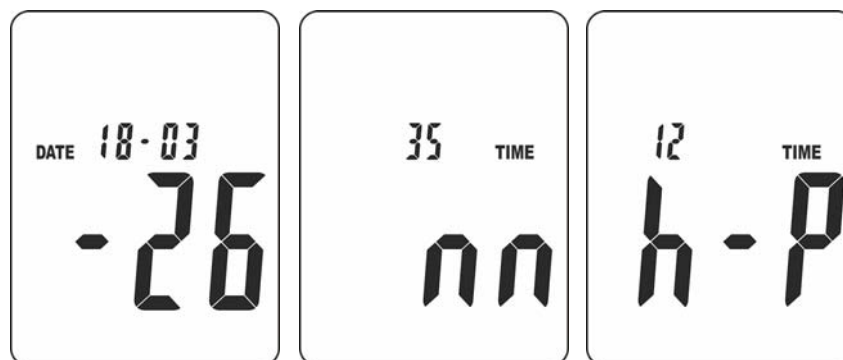

Fig. 3: System time setting
2. Press and hold key **SET** and switch on the instrument using key **ON/OFF**. Release key **SET** with message “TIME” shown on the display. The following screen (see Fig. 3 – left side) indicating the current date (e.g.: 26/03/18) is shown on the display.
3. Press key **SET** to enter the programming section of “Minutes”. The screen in Fig. 3 – Middle appears on the display.
4. Press key **LEV** to set the Minutes and key **SET** to proceed and set the Hour (see Fig. 3 – right side).